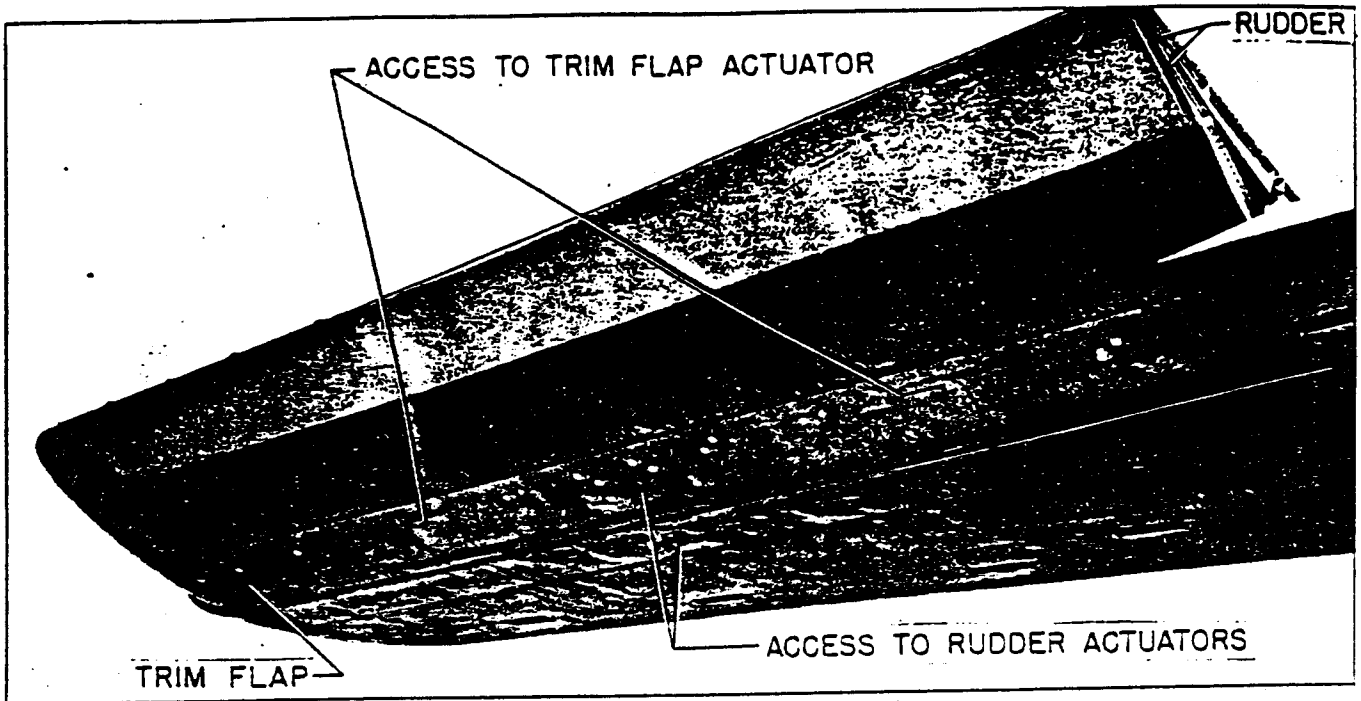

Figure 5. Rudder and Trim Flap
d. RUDDERS. (See figure 5.)- Hydraulically operated split-flap rudders are hinged to the upper and lower surface of each trim flap; the outer ends of the trim flaps form the trailing edge of the wing tips. The rudders deflect above and below the trim flap surfaces for directional control of the airplane, but move with the trim flaps when the flaps are operated for trimming.
(1) REMOVAL.- A rudder and trim flap combination may be removed as a unit if desired, (see TRIM FLAPS, REMOVAL) or the rudders may be removed separately in the following manner:
(b) Remove the two rectangular covers from the lower surface of the trim flap. See figure 5.